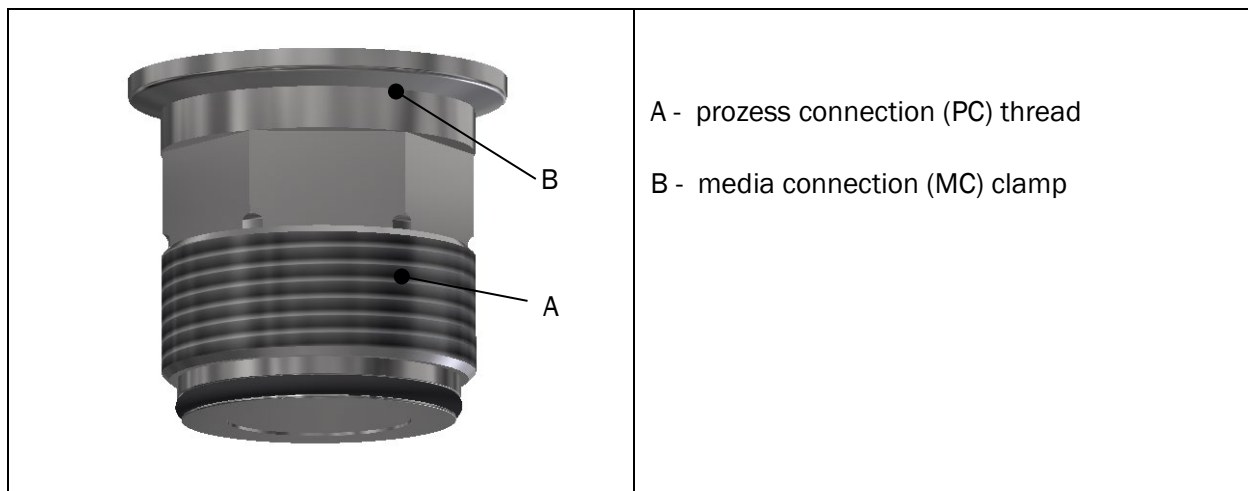

Figure 5.2-6: Installation of threaded connection
2. Check the sealing surface in the container connector as well as on the clamp connection of the media supply (B, fig. 5.2-6) and the thread (A, fig. 5.2-6) for contamination.